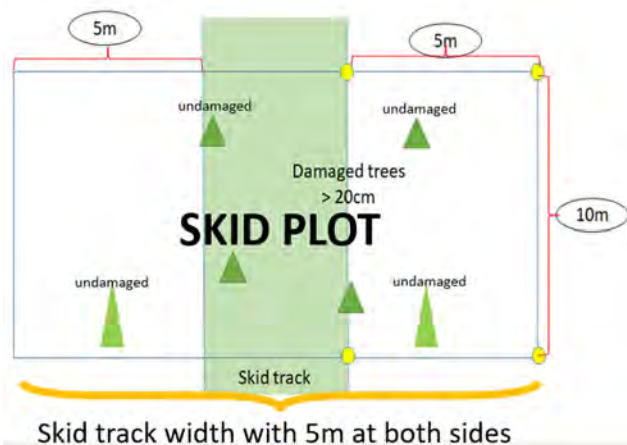
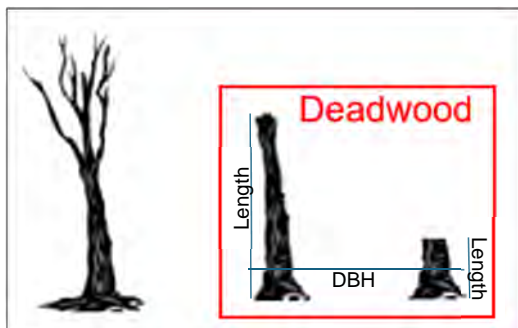

Figure 5-5: Design of Skid Plot
Figure 5-8: Standing Deadwood
On the way to head back to the starting point, skid track width and skidding damage need be measured and assessed. At the marked points every 100m, skid plots need to be established. Its size should be 10m length and 5m distance from the edge of skid track at both sides (total width = skid track width + 10m), as illustrated in the figure 5-5. Before starting plot establishment, you should measure widths between the edge of skid tracks at/around top and bottom of skid plots at 10m distance (two widths per plot).
Now you will assess actual damage impact of Skidding Operation. You should establish skid plots according to the above plot design (figure 5-5), and start measuring all lying and standing deadwoods. In terms of "Standing Deadwood", it is necessary to identify the proper standing deadwoods, which are snapped below first branch (the one snapped above its branch will not be measured as its mortality rate is less than 100%), as indicated in the figure 5-8. In terms of measurements, the diameter of root collar as well as bole/trunk top diameter of standing deadwood needs to be measured together with length of remaining trunk.
- ② Collaterally damaged deadwoods (please refer to Figure 5-8 and 5-9 for further details)